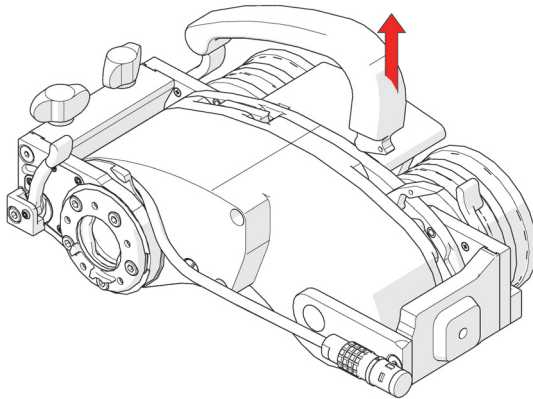

Figure 2-19 Lift the handle to remove it
3. Pull the handle up to remove it from the SteerROVER drive module (see Figure 2-19 on page 61). To reinstall the handle, perform the preceding steps in reverse.